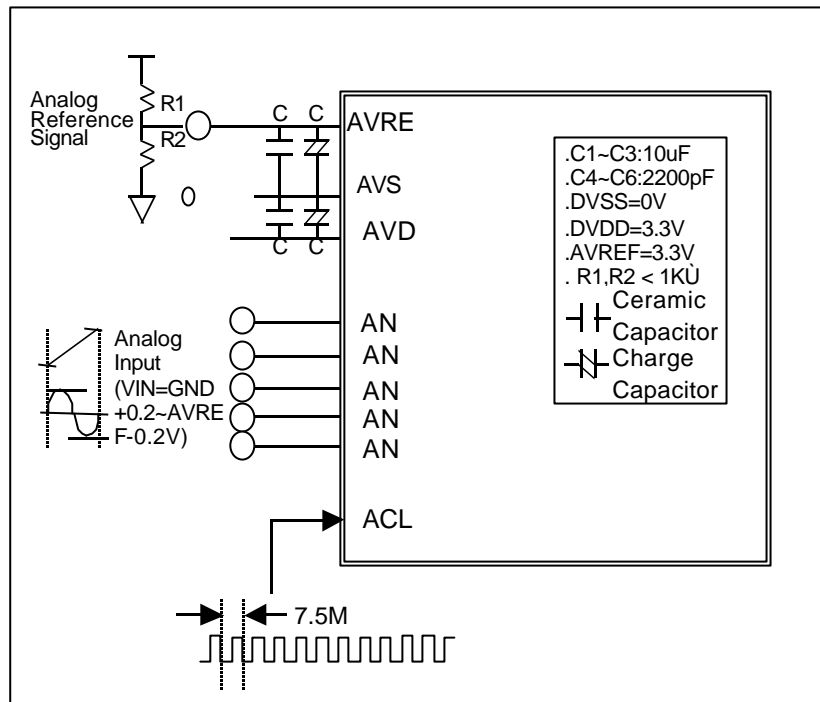

Figure 13.3 Example of Analog Input Circuit
5. Note on Noise: To prevent damage from surges and other abnormal voltages at the analog input pins (AN_0 to AN_4) and analog reference voltage pin (V_{REF}), connect a protection circuit like the one in figure 13.3 between AV_{CC} and AV_{SS} . The bypass capacitors connected to AV_{CC} and V_{REF} and the filter capacitors connected to AN_0 to AN_4 must be connected to AV_{SS} .